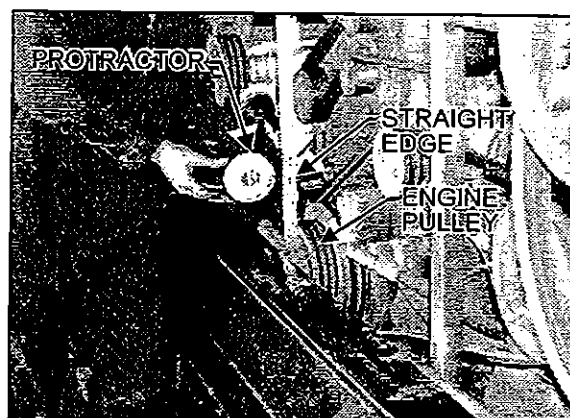

Figure 19: Measuring Engine Pulley Vertical Angle
**Note:** Use a straight edge to measure engine pulley's vertical angle. (Fig. 19)